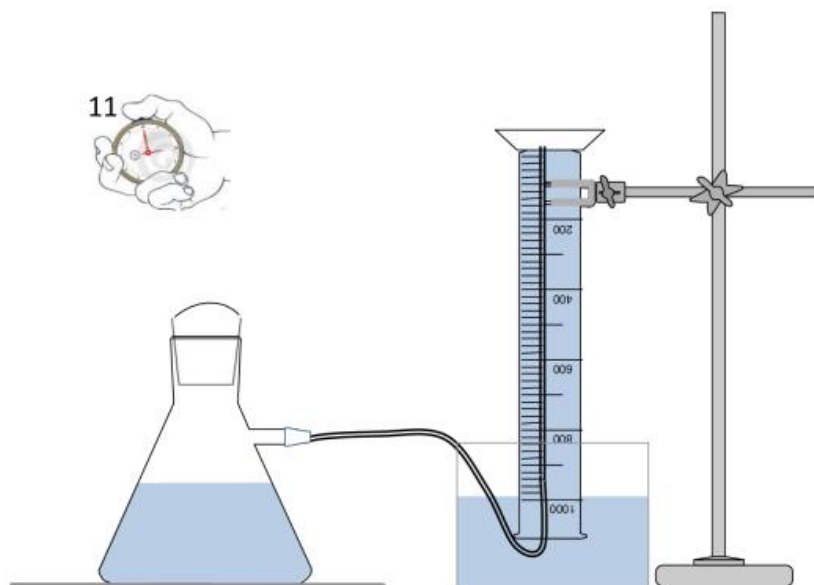

Figure 4
**C. Instructions for assembling the fermentation reaction flask and the gas measurement equipment according to Figure 4.**
C.1. Take the free end of the latex tube and insert it into the inverted graduated cylinder, as shown in (Figure 4). The free end of the latex tube should be at the top of the graduated cylinder after assembling.
D.1. As soon as the fermentation reaction flask and gas measurement equipment are assembled (Figure 4) start the stopwatch (ID# 11).